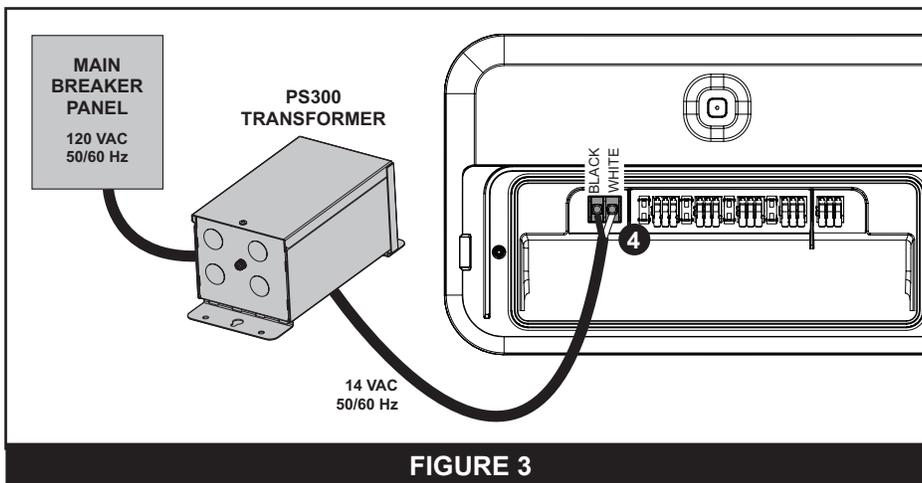

FIGURE 3
6. Connect power to the *Main Power Terminal* (4) according to **FIGURE 3**.